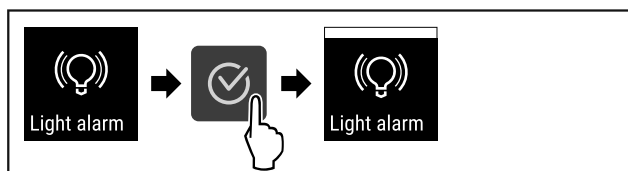

Fig. 98
- ▶ Complete steps (see Fig. 98) .